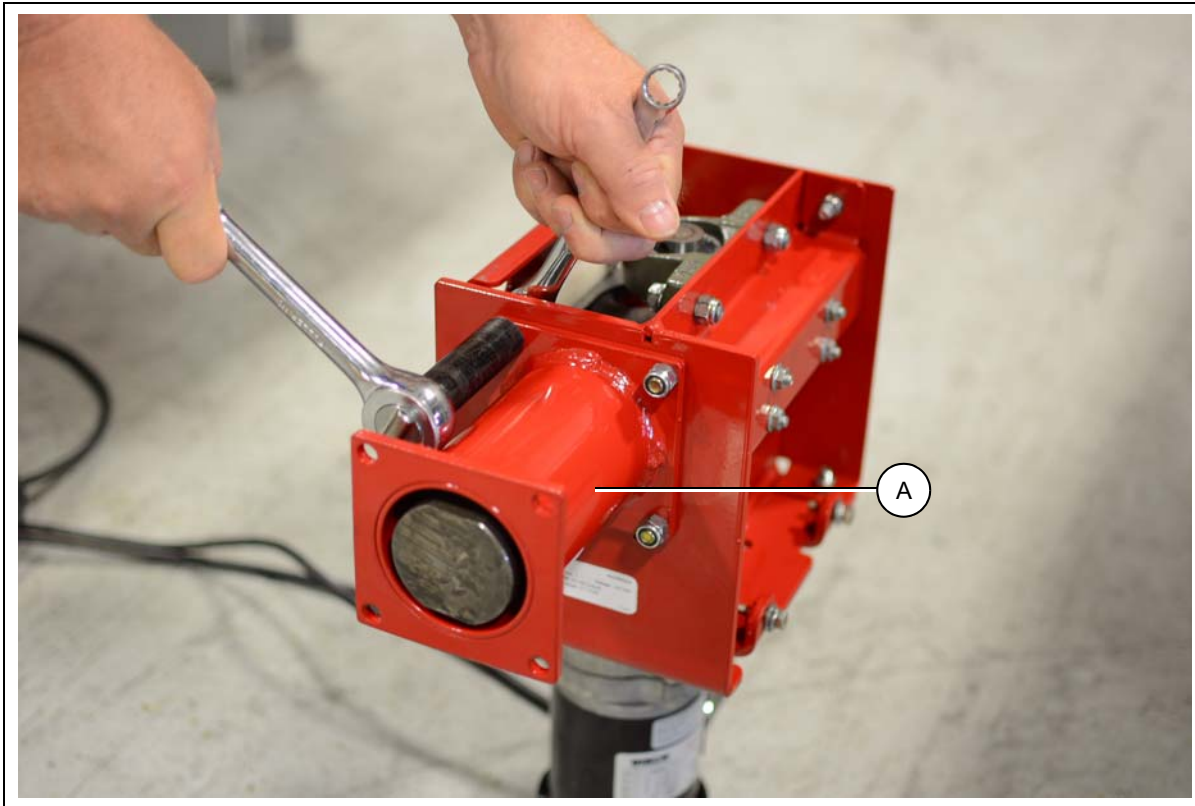
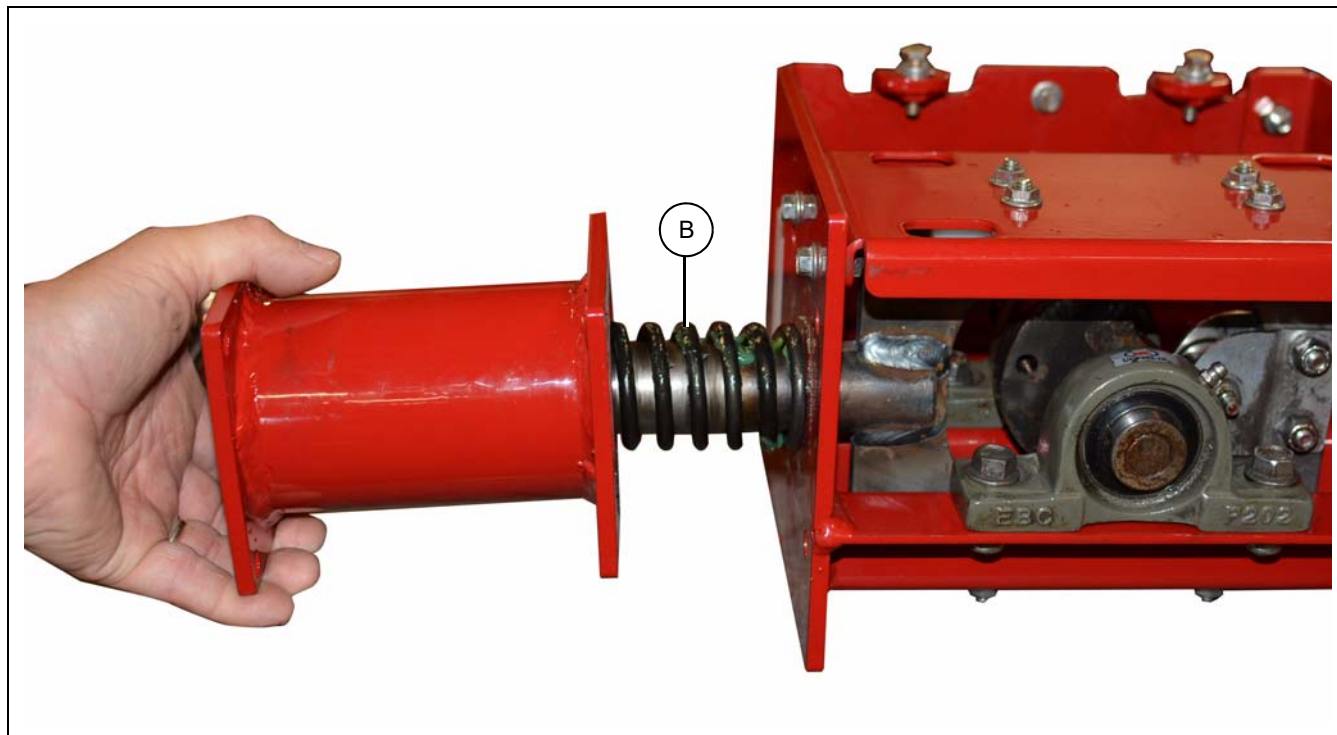

Figure 6D
Figure 6E
1. Remove tube (A) from power unit to expose hammer and spring (B). *(See Figure 6D and Figure 6E.)*